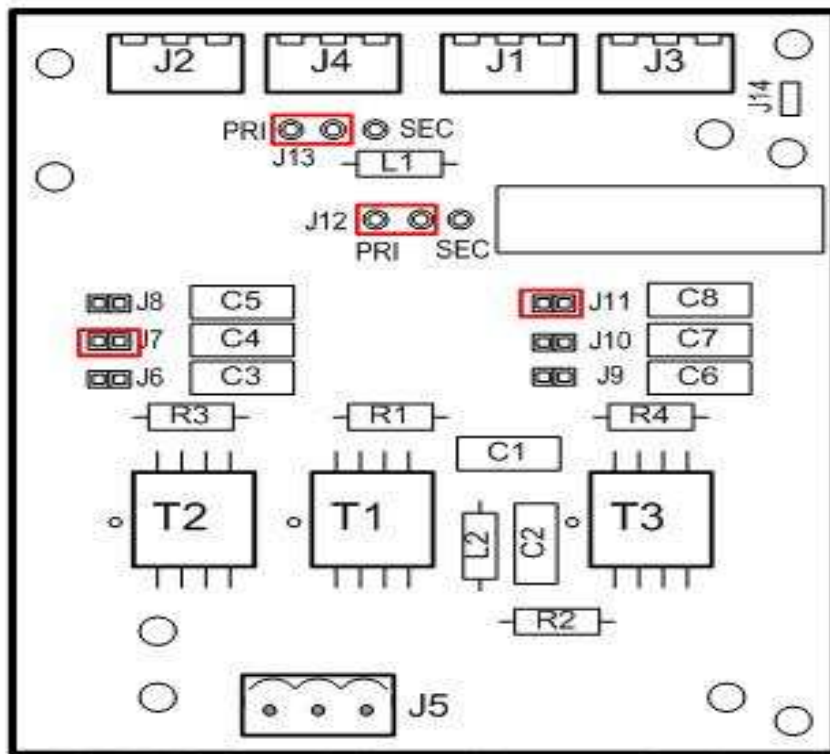

Figure 14 PSB Coupler Board Jumper Settings
- Step 2:** Cut, strip and terminate the RG59 coax cable, then plug it to the coupler board. Check the coupler board jumper settings (see *figure 14 PSB Coupler Board Jumper Settings*).
- Step 6:** Inspect wiring and connections, confirm coupler board jumper settings (see *figure 14 PSB Coupler Board Jumper Settings*).